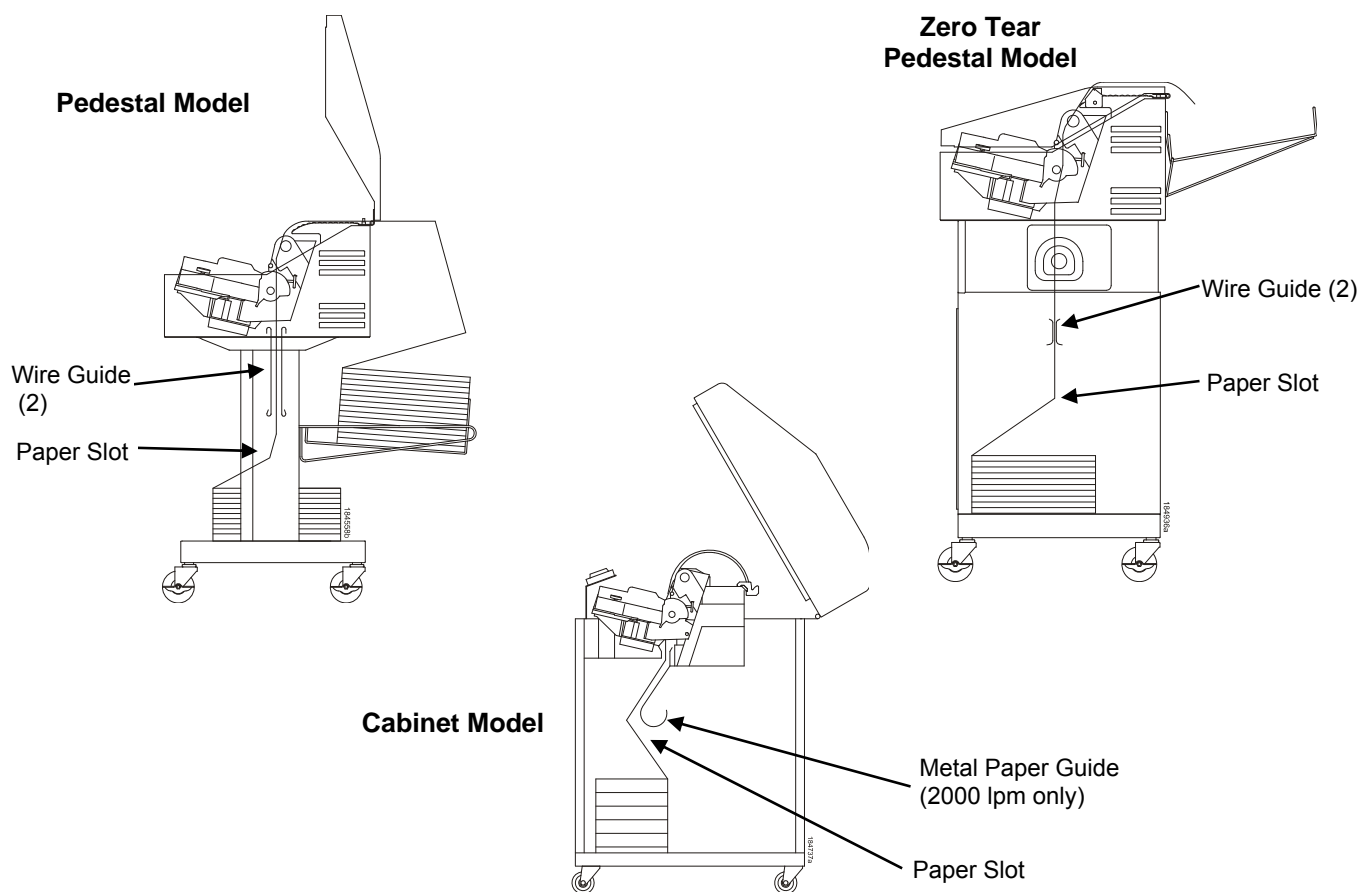

Figure 6 Paper Slot Location
4. Feed the paper up through the paper slot (see Figure 6). It may be easier to feed one corner of the new paper up through the slot first. When this corner can be grasped from the top, rotate the paper back to the normal position.
17. Feed the new paper up through the paper slot. Hold the paper to prevent it from slipping down through the paper slot (see Figure 6 on page 28).